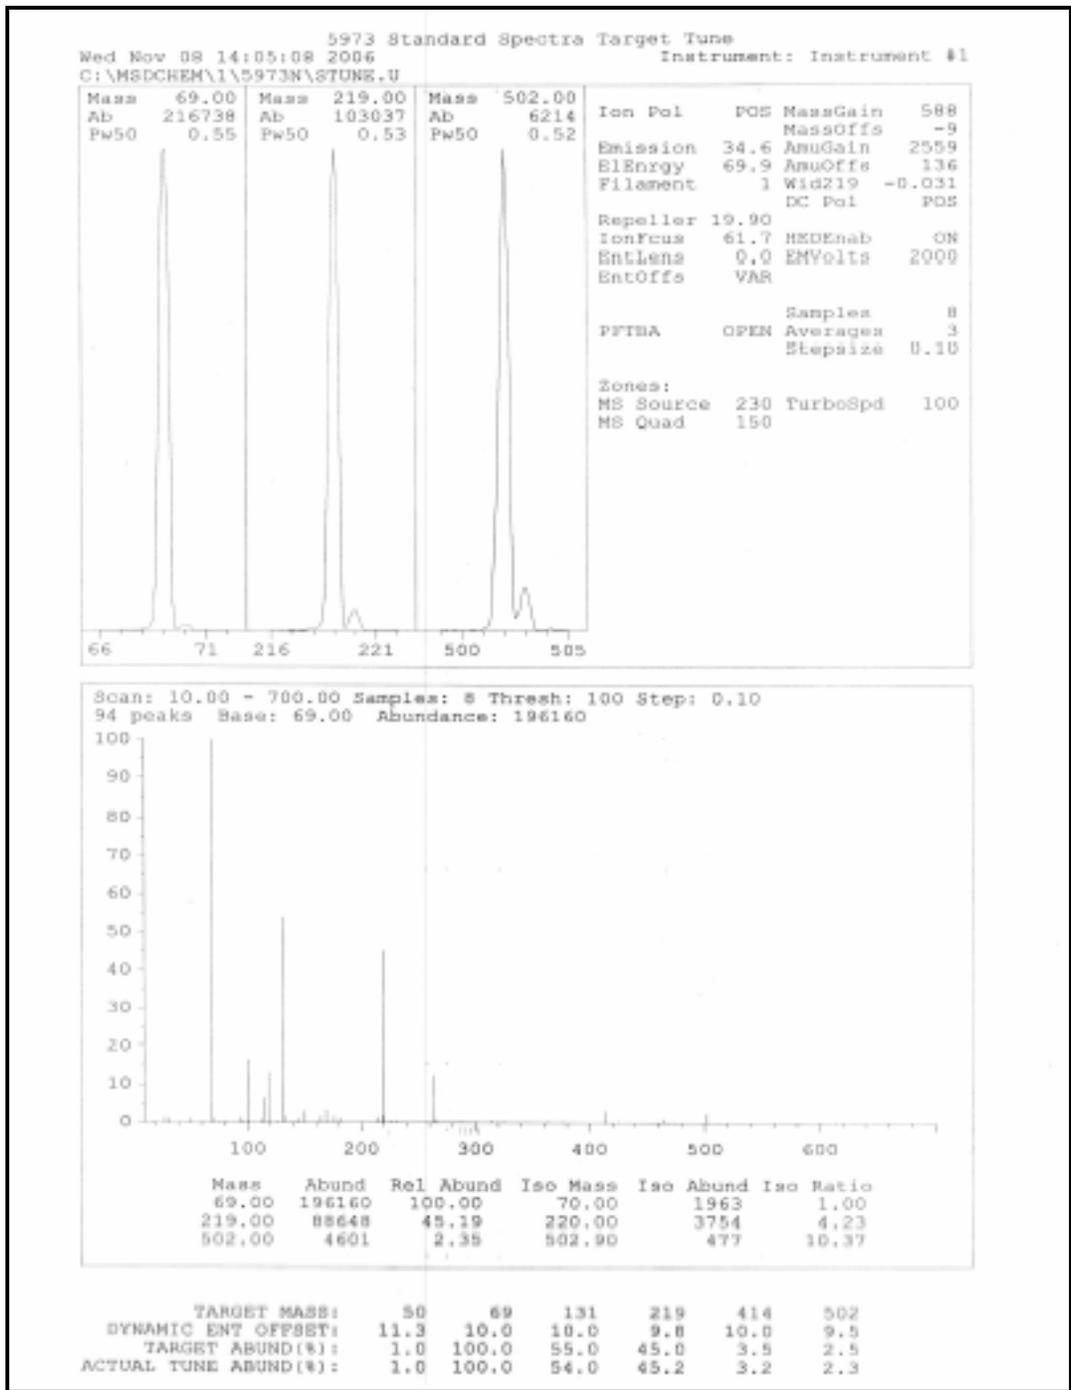

Figure 2. Example of an acceptable tune report
- First selecting the autotune option and click on standard autotune. The software program will generate final tune report similar to figure 2. If there are any MS tuning problems (e.g., dirty source, air leak, etc..) the tuning process will fail.